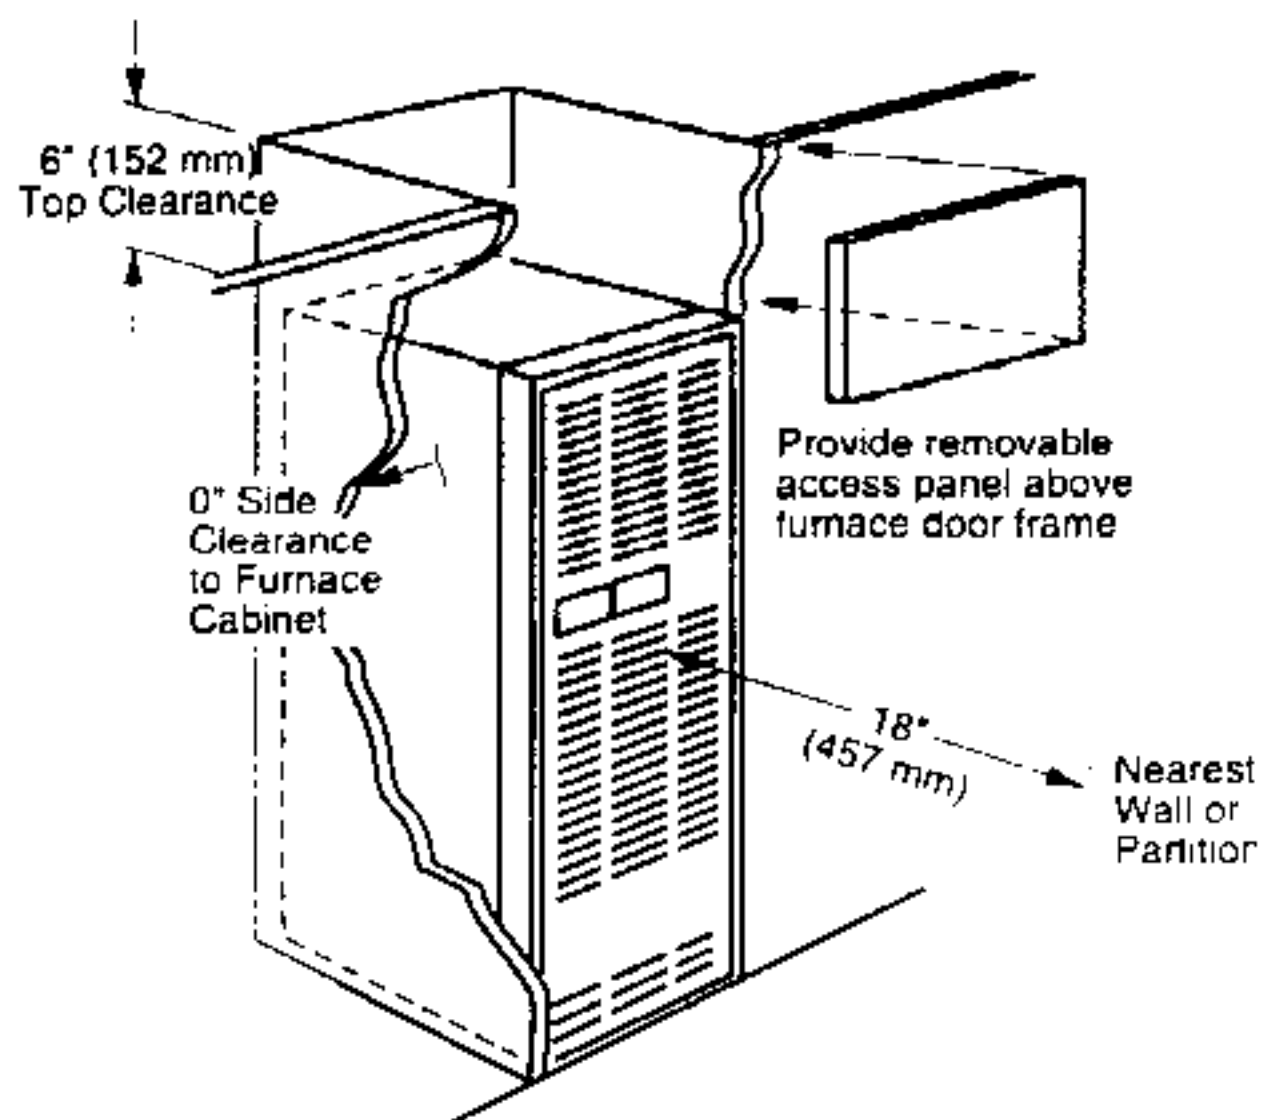

Figure 3. Alcove Installation
The furnace shall be appropriately located to the supply and return air distribution system. (See "AIR DISTRIBUTION", Page 9) Sides and back of the furnace may be enclosed by wall framing. (See "Minimum Clearances," Table 7, and Figures 3 through 5.)
- Alcove installations (see Figure 3): minimum 18" clearance at front of furnace shall be provided for future servicing. A removable access panel should be